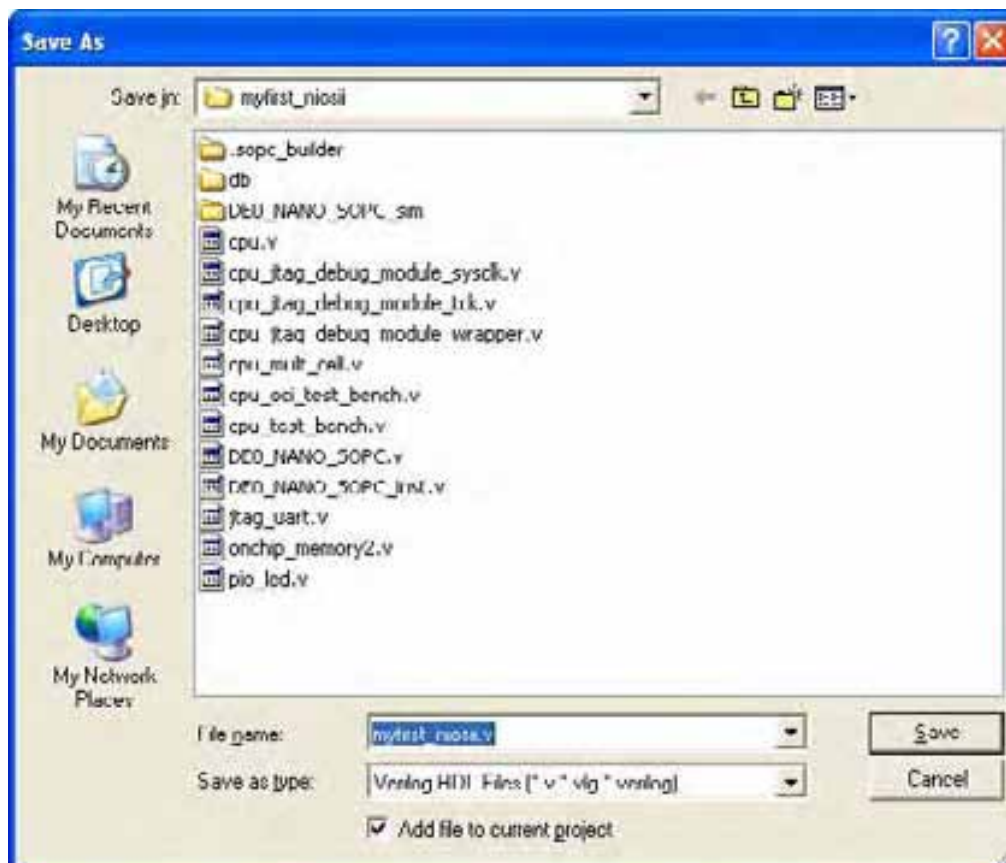

Figure 7-46 Save the Verilog file
35. Save the newly created Verilog file as **myfirst_niosii.v**, as shown in **Figure 7-46**.